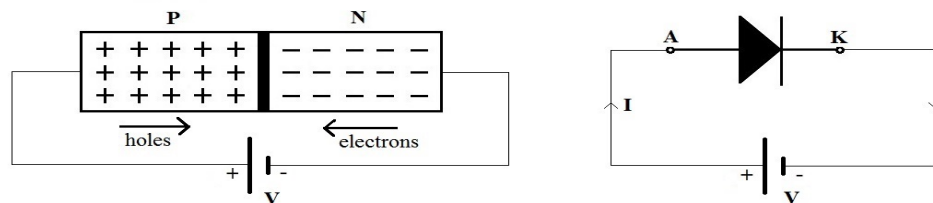

Fig.4.4 Forward biasing of PN junction
- When the battery connection is made as shown in the Fig. 4.4, holes are repelled by the positive battery terminal and electrons are repelled by the negative battery terminal. Hence electrons and holes move towards the junction.